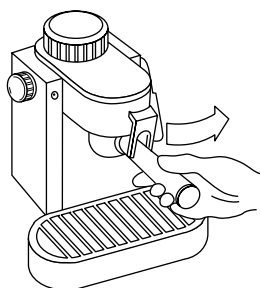

FIGURE 2
- Place the filter holder underneath the brew head so that the handle is positioned to the left of center. (See Figure 2) Lift the filter holder up and insert into the brew head. Rotate handle completely to the right until it stops at the "LOCK" position. Make sure the filter holder is secure. (See Figure 2)